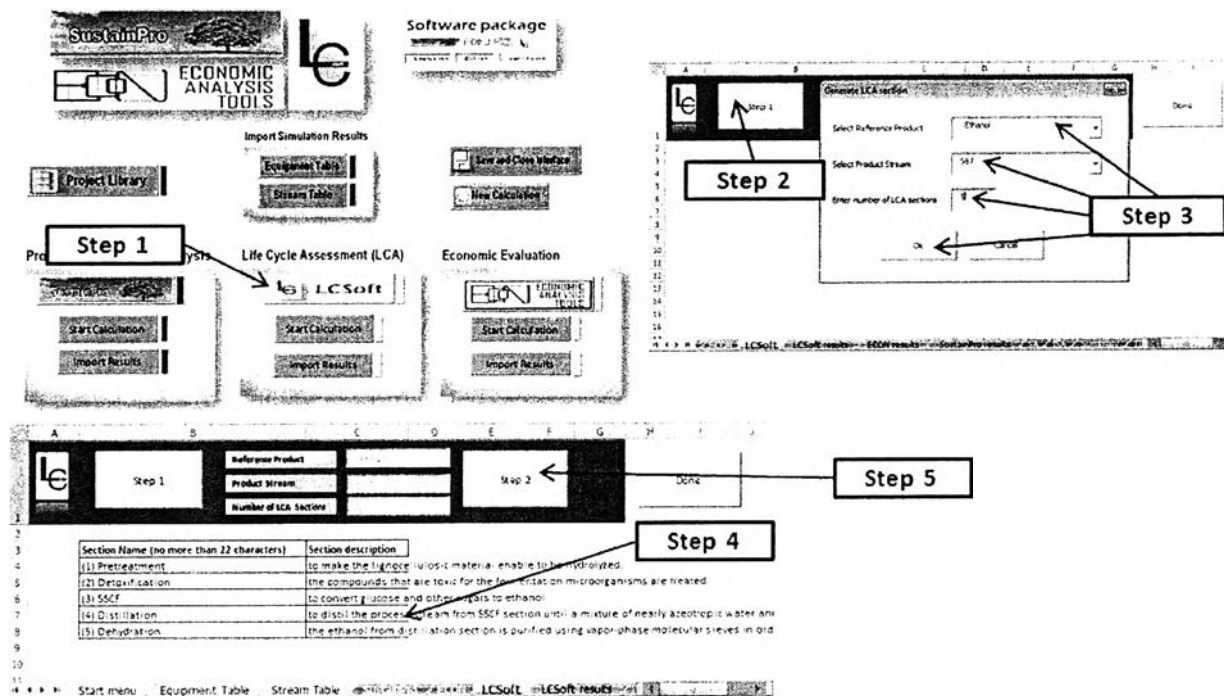

Figure B.18: Steps to perform LCA
Step 1: Click “LCSof” button in “Start menu” page (Figure B.18).